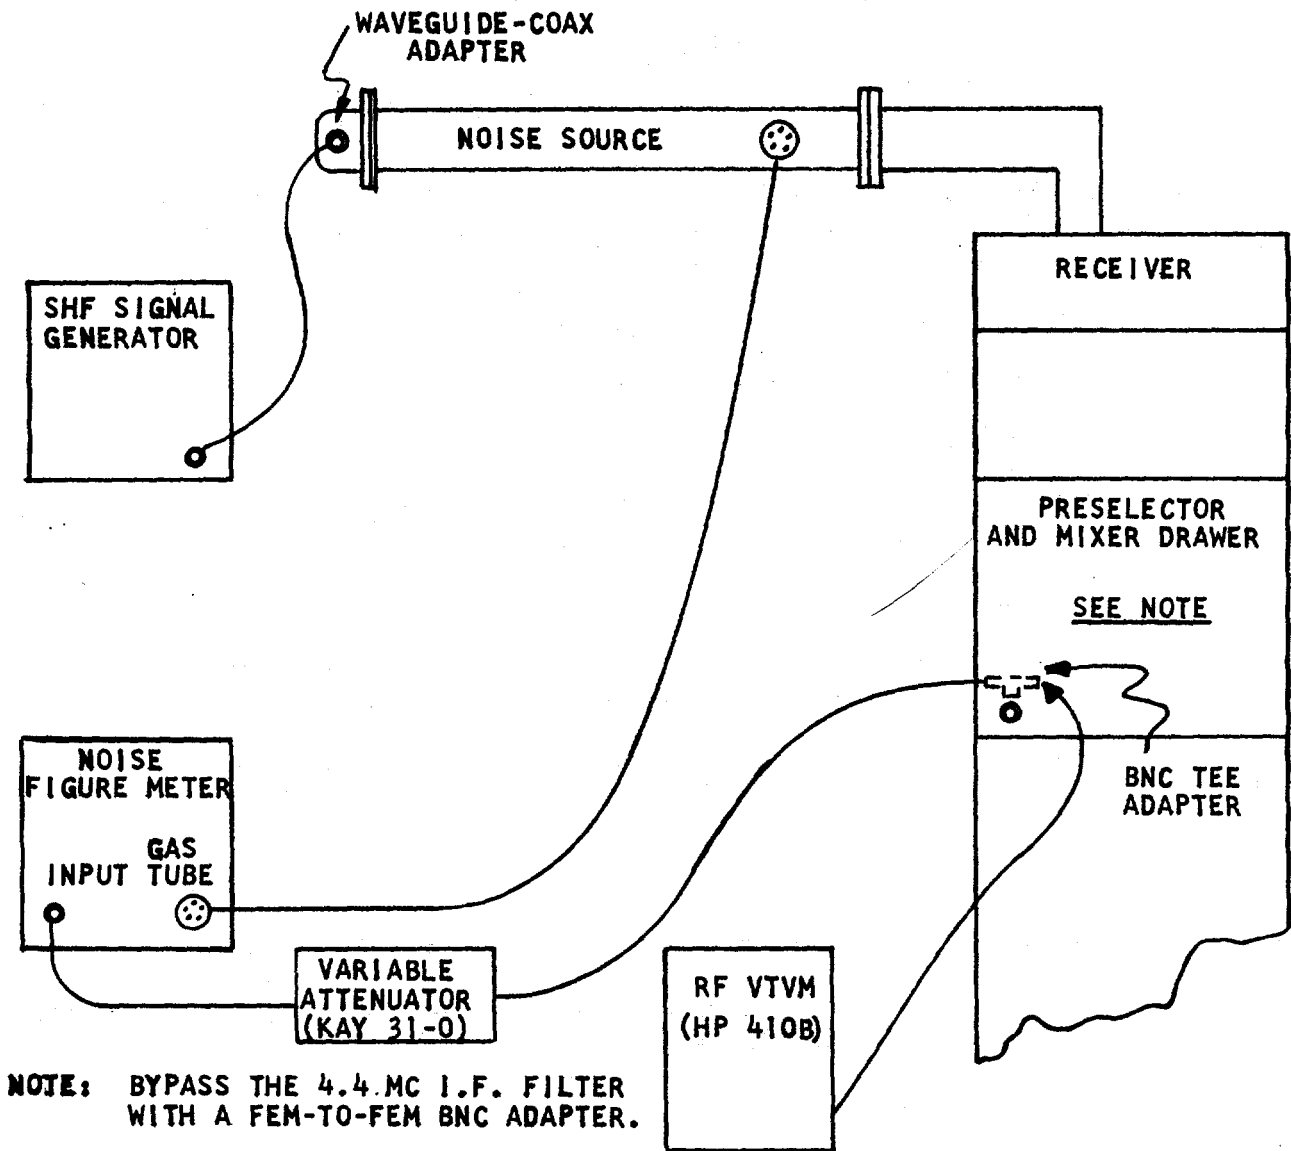

Figure 6-2. Mixer-Preamplifier Gain and Noise Figure Measurements Test Setup
- c. Set-up the test equipment as shown in figure 6-2.
- 1. Set the INPUT (MC) switch to 70.
n. Read the vtvm (with the Kay attenuator set for 50 db and connected as shown in figure 6-2) the reading shall be 0.60 vrms minimum.